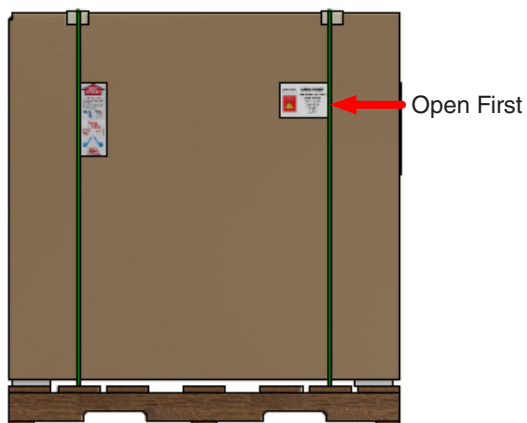

Figure 5.1a: This Crate has a Carton Banded to a Wooden Skid.
- All QUV testers are shipped in one of two types of crates (Figure 5.1a and Figure 5.1b).